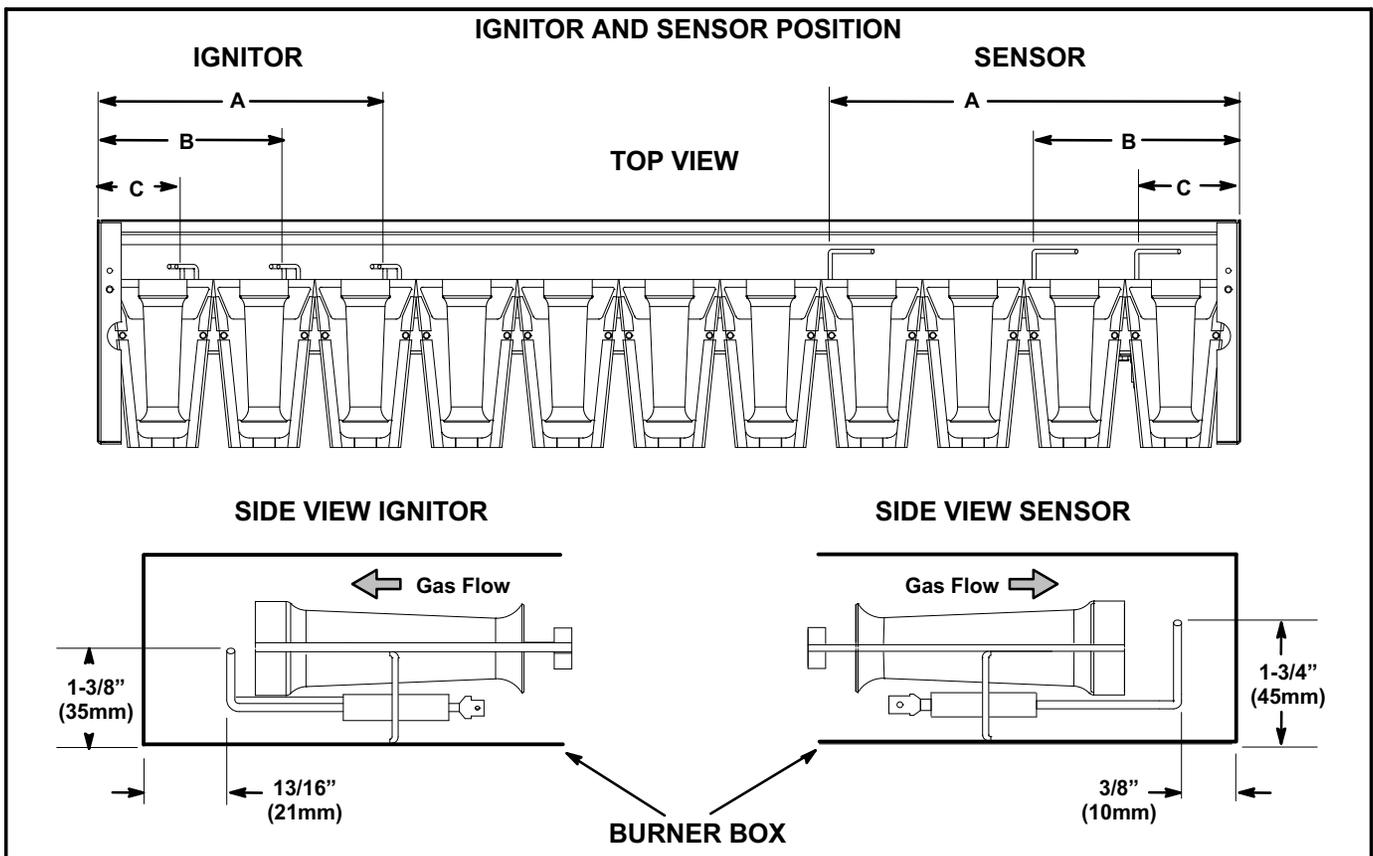

FIGURE 18
- 5- Check the alignment of the ignitor and the sensor as shown in figure 18 and table 10.